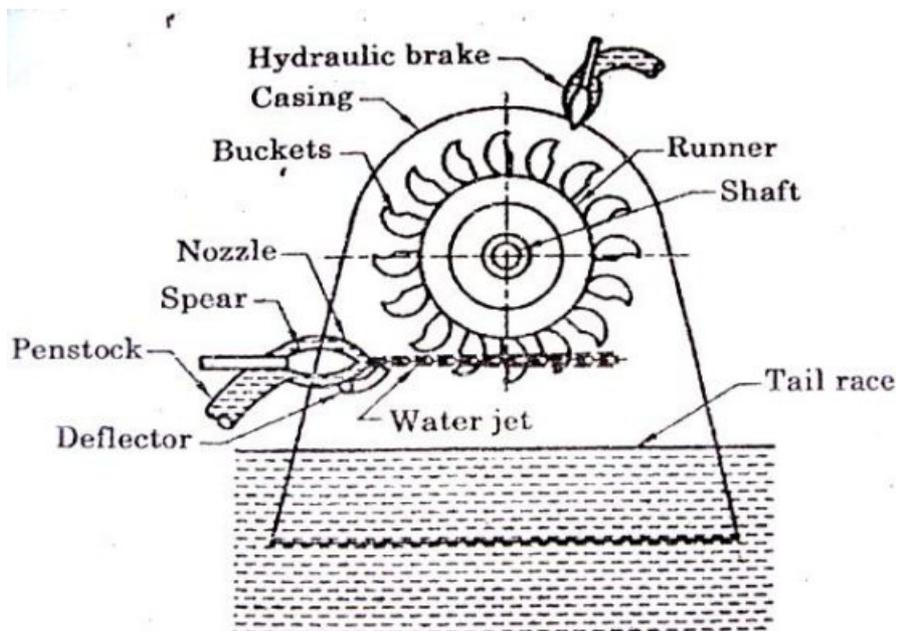

**Fig. 3.7**
- ❖ This Reaction Turbine operates due to the pressure difference in the inlet and outlet of turbines as shown in fig.3.7.